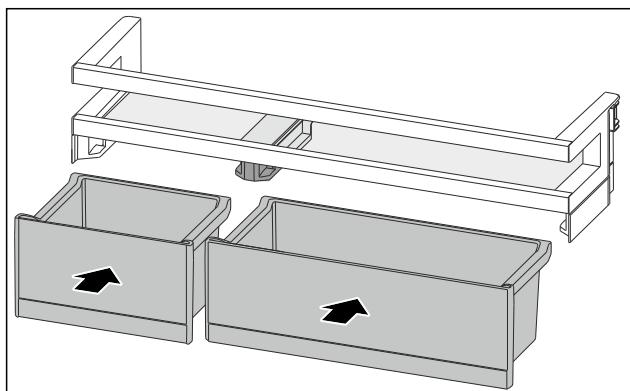

Fig. 81
- Insert the VarioBoxes in reverse order. (see Fig. 81)